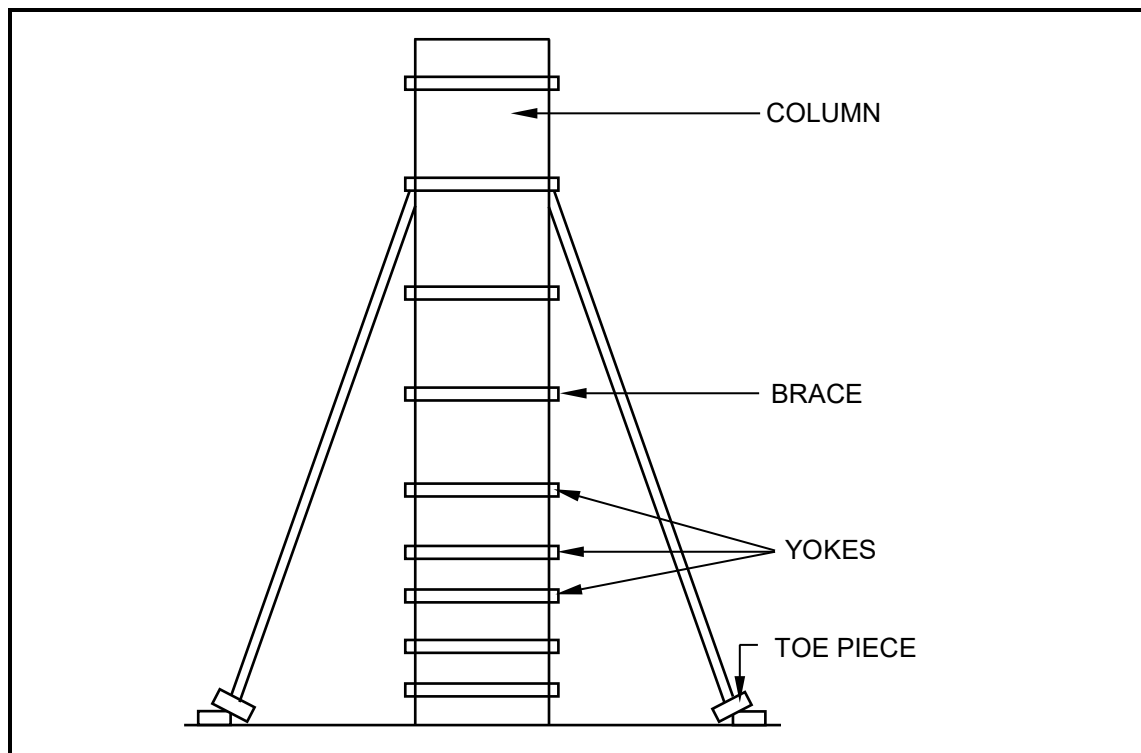

FIGURE 5.3
5.3 FIGURE 5.3 below shows a braced square column.